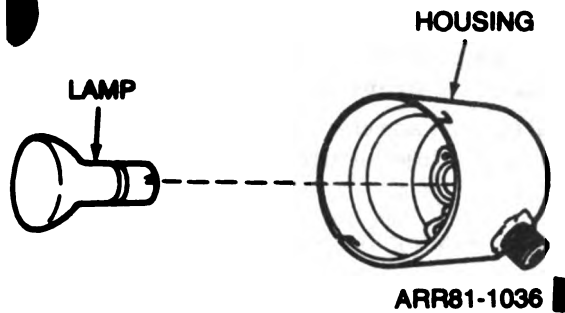

Figure 172.1. Collimator lamp and housing.
*f. Reference collimator M1.* Replace lamp in the lamp housing by releasing the bayonet mount and withdrawing the housing from the collimator (fig. 172.1). Remove and discard the old lamp. Insert new lamp and install housing in collimator.
(2) Securely attach regulator to tank valve using appropriate adapter supplied with purging kit.
*Note.* Two regulator assemblies are presently in use for purging and charging fire control material. The insert on figure 172.1 shows regulator 5580922 while the tank is shown with regulator 11729749.
(3) Securely attach hose assembly to the low pressure port.
(4) Rotate pressure regulator valve counterclockwise to the extreme closed position.
(5) Open the nitrogen tank valve slowly until the maximum tank pressure is registered on the high pressure gage.
(6) Slowly rotate pressure regulator valve clockwise until approximately 5 psi is registered on the low pressure gage. Check for and eliminate any interference; close pressure regulator valve.